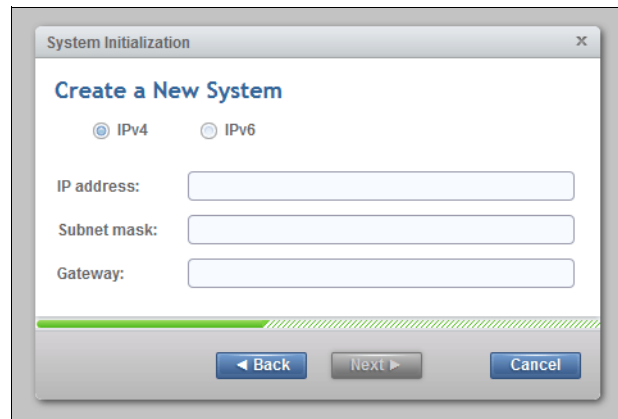

Figure 2-18 System initialization: Create a New System
7. Choose the first option to set up the node as a new system and click **Next** to continue to the window that is shown in Figure 2-18.
1. Start the service configuration wizard by using a web browser on a workstation and point it to the system management IP address that was defined in Figure 2-18 on page 55.